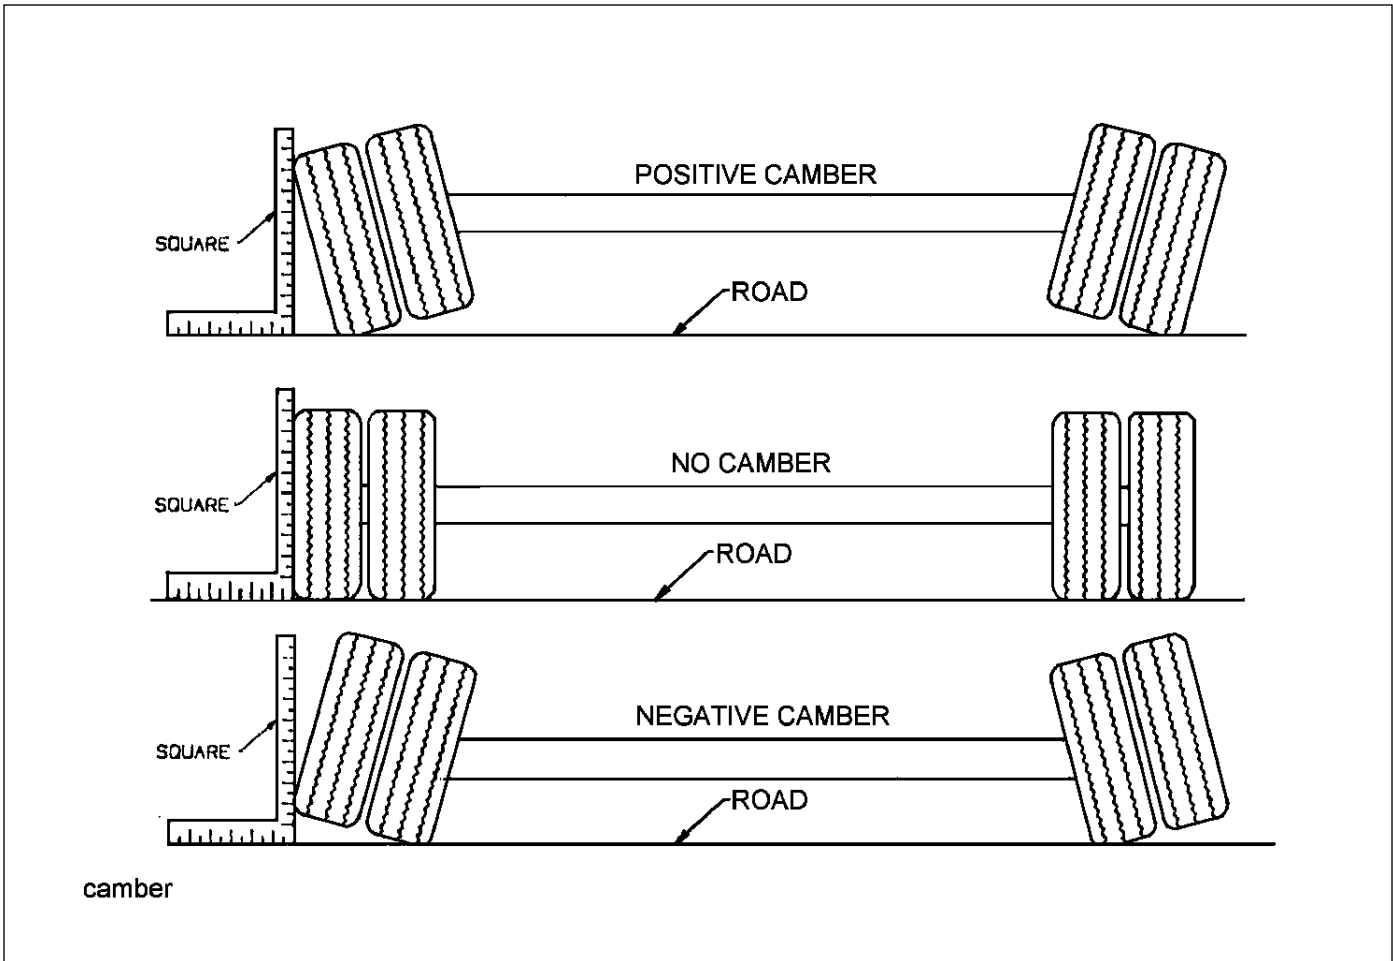

Figure 4-6: Examples of Camber
4. Follow the same procedures as in **Steps 2 and 3**, except place the axle gauge above and below the axle. If gauge point gap is found, the axle has positive or negative camber. The trailer axle has no camber from the factory. If it is found to have positive or negative camber, axle replacement is necessary (See Figure 4-6. for examples of camber).